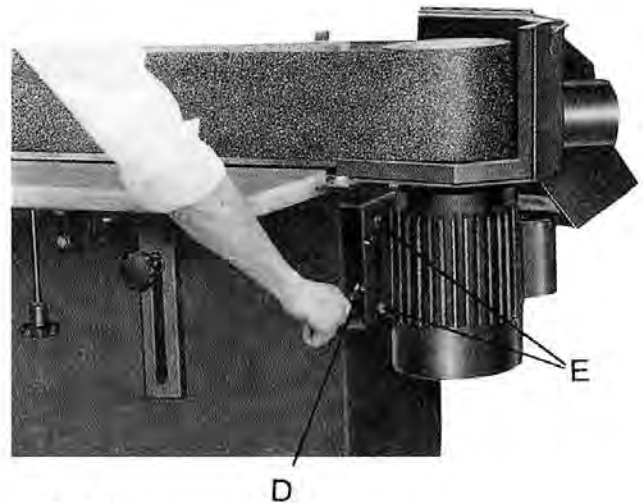

Fig.10,
6. If the abrasive belt left to right is not parallel with the steel platen then the motor is not adjusted properly. To adjust follow the procedure detailed below. By loosening the motor mounting screws (E) Fig. 10 and adjusting with the two jack screws (D).